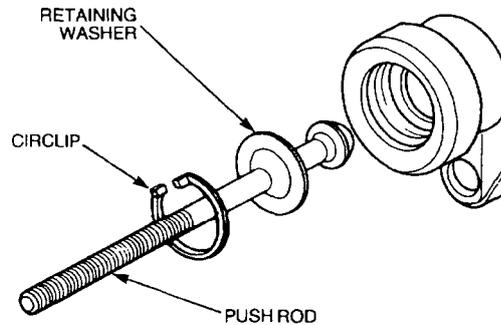

Figure 143 Removing the Push Rod
- Remove the circlip, push rod and retaining washer (Figure 143).